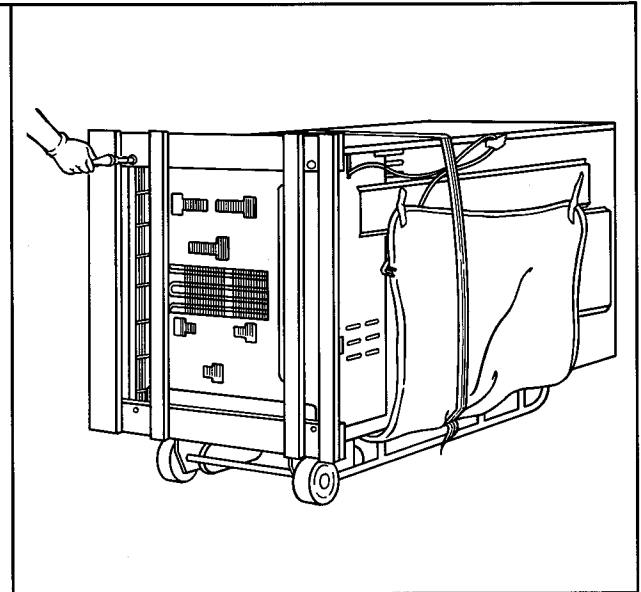

Figure 5
10. Slide cart between refrigerator and skid on the opposite side and gently lower the dolly so handles are resting on the floor. See Figure 5.